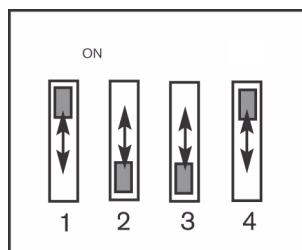

Fig. 9.2 Option Switch Details
- 4** Option Switches (see *Figure 9.2* on page 22 for details)
2. Verify the four (4) Option Switches are set to the default settings (see *Figure 9.2* on page 22 for details on the respective functions).
- b. Check the lighting conditions in the area of the UMS camera. If the area is too dark the light sensor keeps the UMS in Power Save mode. To disable the light sensor, set the Number 4 option switch, located on the control board, to the OFF position. See *Figure 9.2* on page 22 for details.